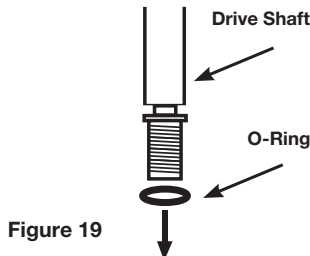

Figure 19
9. Remove O-ring from drive shaft located behind impeller (see Figure 19).